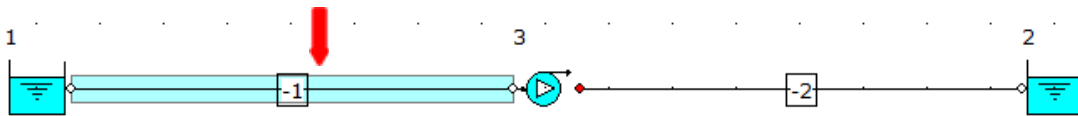

Figure 18: Highlighted Pipe “-1”.
- Let us now edit the default suction pipe data by selecting pipe number -1. You should now see that pipe number -1 is highlighted on the flowsheet (Figure 18).